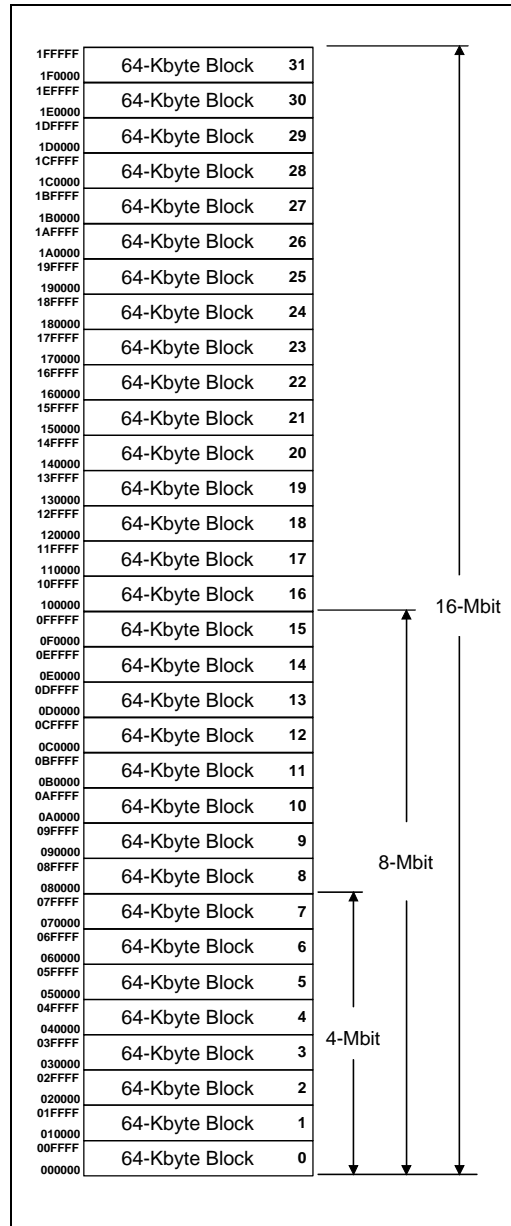

Figure 5. Memory Map
The byte-wide Smart 3 FlashFile memory family provides density upgrades with pinout compatibility for the 4-, 8-, and 16-Mbit densities. The 28F004S3, 28F008S3, and 28F016S3 are high-performance memories arranged as 512 Kbyte, 1 Mbyte, and 2 Mbyte of eight bits. This data is grouped in eight, sixteen, and thirty-two 64-Kbyte blocks which are individually erasable, lockable, and unlockable in-system. Figure 5 illustrates the memory organization.
| Read Identifier Codes | | V _{IH} or V _{HH} | V _{IL} | V _{IL} | V _{IH} | See Figure 5 | X | Note 5 | V _{OH} |
- X selects the specific block lock configuration code to be read. See Figure 5 for the device identifier code memory map.